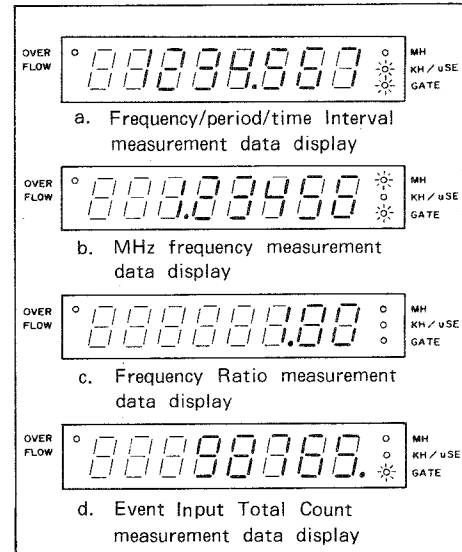

Figure 4. Various display examples
Figure 4 shows the display examples.
Figure 4 a indicates the value of "1234.567" with kHz/ $\mu$ s LED ③ active. This means that the counter is now measuring the frequency, period, or time interval selected by FUNC switch ⑱. If it is assumed that a frequency is being measured, the display resolution value is 0.001kHz, that is 1Hz. This means that the gate time (display resolution) has been set to 100/1.0s.
With those functional parameters left unchanged, use the display unit select switch to select the MHz/ms mode. The display value will change to the one as shown in Figure 4 b. This means that the same frequency is still being measured but the measurement value is now displayed in MHz. In other words, the display resolution value has not been changed with GATE switch ⑲ but the display resolution value has changed from 1Hz (0.001kHz) to 10Hz (0.00001MHz). If Figure 4 a shows that a period or time interval is being measured and the MHz/ms
Figure 4 c shows that the same signal is input to the CHANNELs A and B input jacks and that the frequency ratio between the two signals is measured during the same gate time of Figure 4 a and b. In this case, the two display unit indication LEDs become inactive because the frequency ratio is output to the Display.
Figure 4 d shows the typical event total count example. The output value is displayed in integer (no data following the decimal point is displayed) because the event total count requires no display unit.